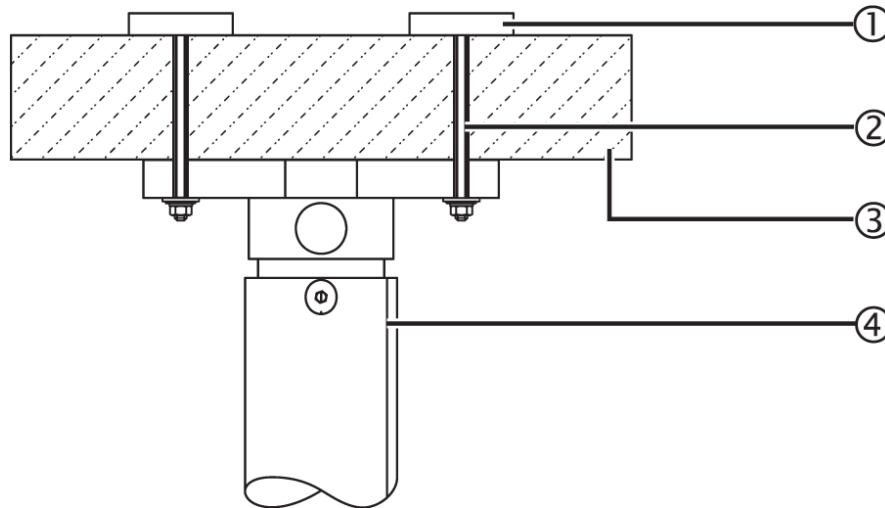

Figure 2
Ceiling column mounted with counter plates (see figure 2)
1.1.1 When using counter plates with threaded rods (see figure 2)
The recommended method applicable in most cases for attaching an anchorage void kit to an existing raw ceiling is to use counter plates with continuous threaded rods (not included in the scope of delivery), similar to those described in section 1 – figure 2.